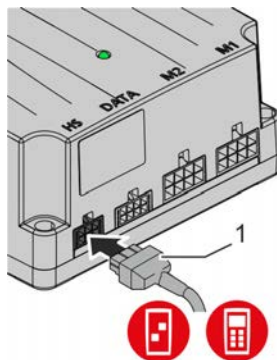

Figure 21 - Connecting the hand switch (example RK MultiControl II duo)
1. Connect the cable of the respective hand switch (Figure 21/1) to the hand switch interface HS.